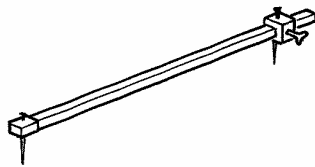

Figure 5
b) Name the setting out aid shown in figure 5 below.